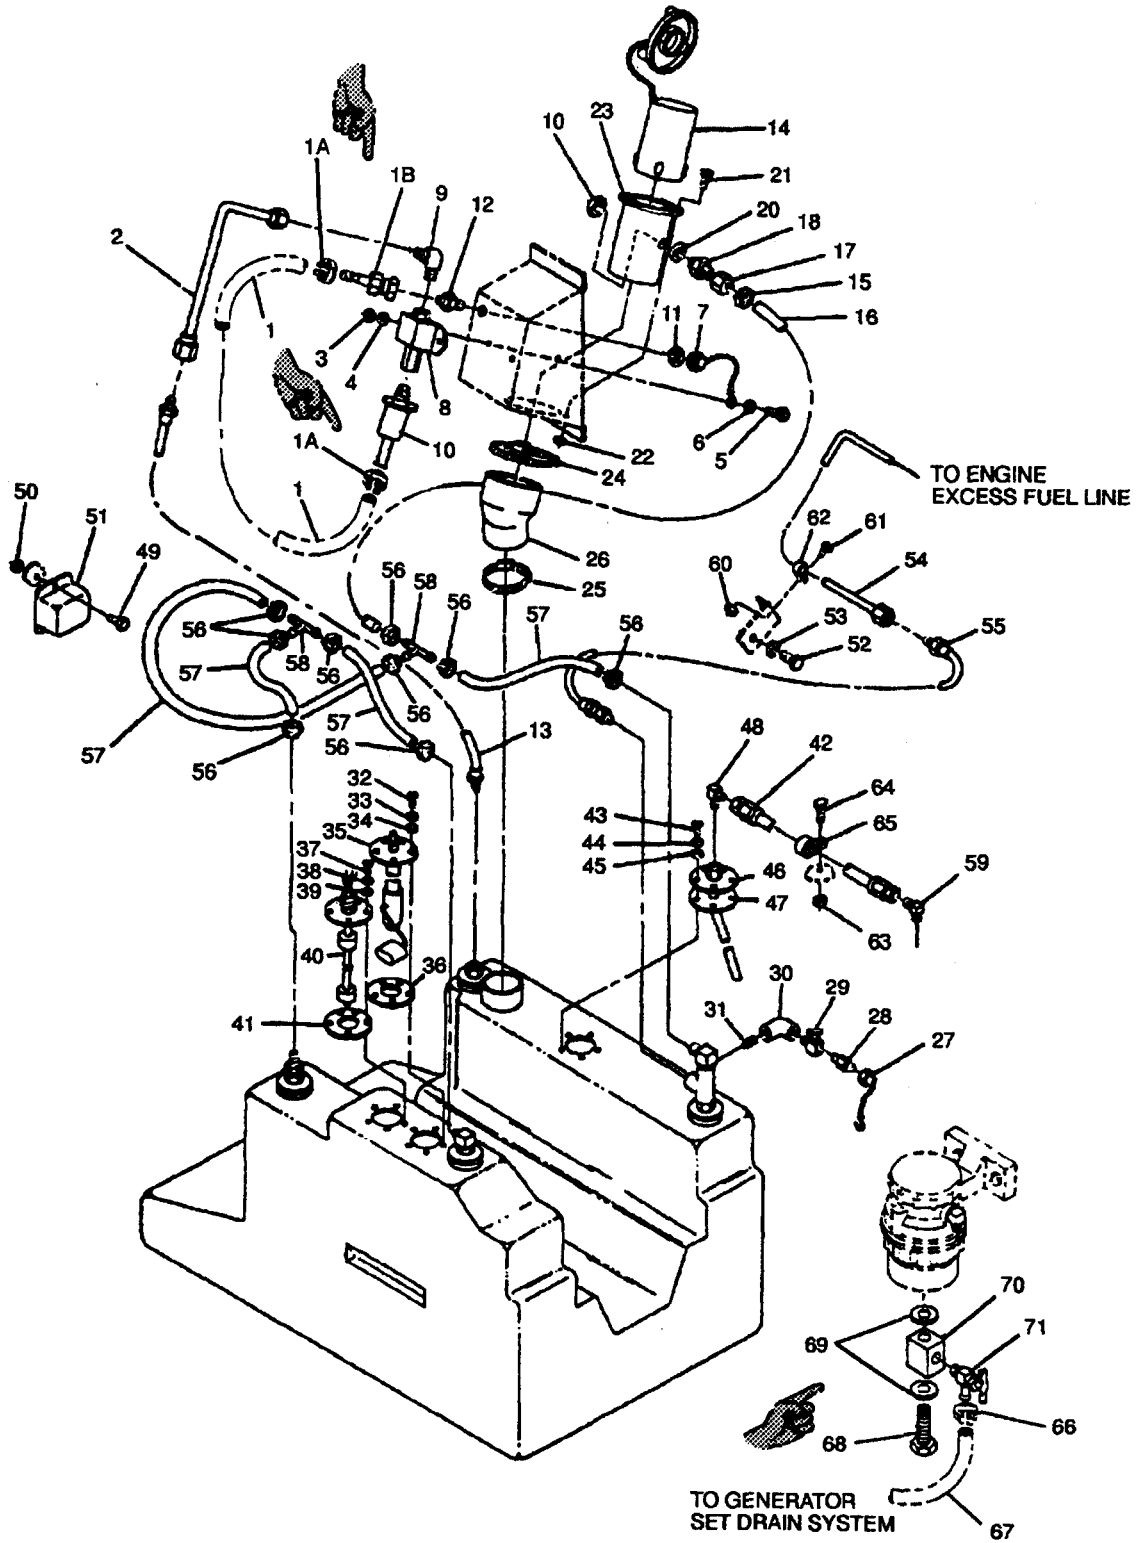

FIGURE 2-26. Fuel Tank Filler Neck and Low Pressure Fuel System
- c. Identify fuel line (1, 2, 13, 16, 42, 54, 55, or 57, FIGURE 2-26) or fitting (9), (10), (12), (18), (28), (30), (31), (48), (58), or (59) that is damaged or leaking and must be removed.
- d. Remove nut (60) or (63), bolt (61) or (64), or clamp (56), (62), or (65) as necessary.
- a. Remove any caps and position fuel line (1, 2, 13, 16, 42, 54, 55, or 57, FIGURE 2-26) or fitting (9), (10), (12), (18), (28), (30), (31), (48), (58), or (59) in generator set.
- b. Connect fuel line at both ends, and install clamp (56), (62), or (65), bolt (61) or (64), or nut (60) or (63) as necessary.
- b. Inspect auxiliary fuel pump (8, FIGURE 2-26) for leaks, cracks, missing hardware, loose connections, and other damage.
- d. Disconnect auxiliary fuel pump outlet line (13, FIGURE 2-26) at fuel tank fitting and place disconnected end in measuring container.
- h. Connect auxiliary fuel pump outlet line (13) at fuel tank fitting.
- d. Tag and disconnect auxiliary fuel pump (8, FIGURE 2-26) electrical connector.
- e. Loosen damp (1a). Disconnect filter (10) and remove adapter fitting (1b) from filler neck panel fitting (12). Remove adapter fitting (1b) from fuel inlet hose (1). Remove filter (10) from auxiliary fuel pump (8). Cap fuel inlet hose (1).
- f. Disconnect auxiliary fuel outlet line (2) from auxiliary fuel pump (8).
- g. Remove nuts (3), lockwashers (4), bolts (5), washers (6), cap and chain assembly (7), and auxiliary fuel pump (8).
- h. Remove fitting (9) from auxiliary fuel pump.
- i. If necessary, remove nut (11) and fitting(12) from fuel filler panel.
- a. If removed, install fitting (12, FIGURE 2-26) and nut (11) in fuel filler panel.
- b. Install fitting (9) to auxiliary fuel pump (8).
- c. Install auxiliary fuel pump (8) and cap and chain assembly (7) in generator set with bolts (5), washers (6), lockwashers (4), and nuts (3).
- d. Connect auxiliary fuel outlet line (2) to auxiliary fuel pump (8).
- e. Remove caps from fuel inlet hoses (1). Install filter (10) on auxiliary fuel pump (8). Install adapter (1b) on fuel inlet hose (1) and connect adapter fitting (1b) to filler neck panel fitting (12). Connect other end of fuel inlet hose to filter (10). Tighten damp (1a).
- c. Remove cap (27, FIGURE 2-26), open fuel drain valve (29) and drain fuel into suitable container.
- e. Remove filler neck cap and tube assembly (14).
- f. Loosen damp (15) and disconnect hose (16) from adapter (17).
- g. Remove adapter (17) from fitting (18).
- h. Remove nut (19), washer (20), and fitting (18) from side of filler neck (23).
- i. Remove bolts (21 ) and nuts (22) securing filler neck (23) to generator set housing.
- j. Remove damp (24) and (25), hose (26), and filler neck (23) from fuel tank opening. Cover fuel tank opening.
- c. Inspect hose (26, FIGURE 2-26) for cracking, wear, or other damage.
- d. Inspect filler neck (23) for corrosion, cracking, or other damage.
- e. Inspect filler neck cap and tube assembly (14) for damage.
- a. Position hose (26, FIGURE 2-26), dampers (24) and (25), and filler neck (23) on fuel tank.
- b. Install bolts (21) and nuts (22) securing filler neck (23) to generator set housing.